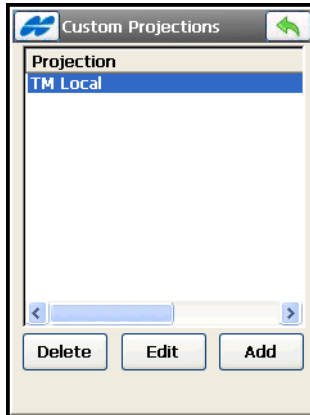

Figure 3-79. Custom Projections – Add New Custom Grid System
- **Custom** – opens the *Custom Projections* screen to add/edit user-defined projections (Figure 3-79 on page 3-83).
The *Custom Projections* screen (Figure 3-79) contains a list of custom projections (grid systems). Initially, this list is empty.